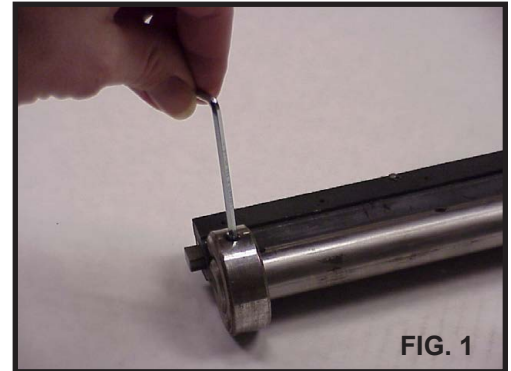

FIG. 1
- A. Remove collar by loosening the set screw and sliding it off the end of the comb (See Fig. 1).